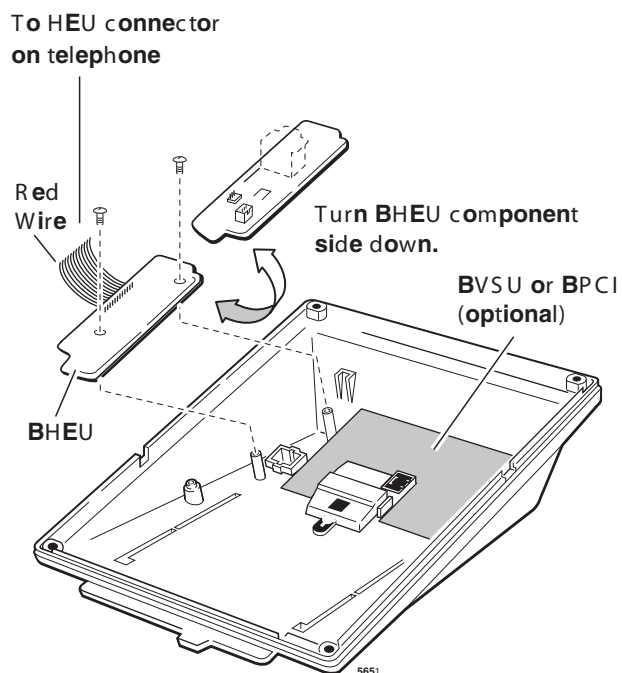

Figure 7-5 BHEU Installation
5. Position the BHEU PCB (component side down) on the standoffs inside the base, and secure with the two provided screws (see Figure 7-5).